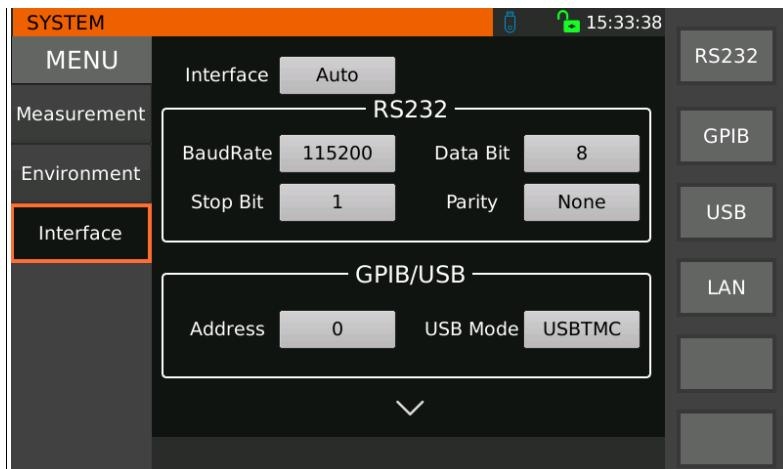
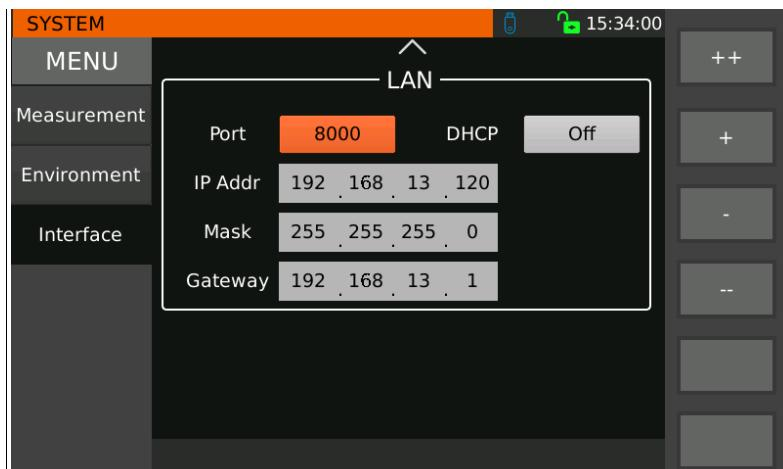

Figure 3-9 System Communication Setup 1
Figure 3-10 System Communication Setup 2
2. Choose to enter the communication related system setting interface shown in Fig. 3-9 and Fig. 3-10 through **【▲】**, **【▼】** arrow keys or knob or touch the screen directly.
The system communication settings are shown in Figure 3-9 and Figure 3-10.